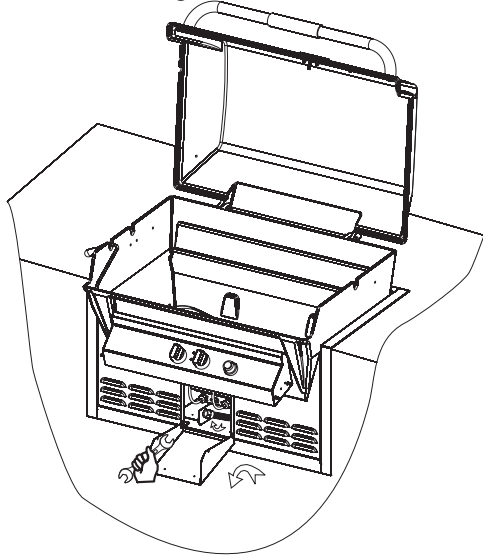

Figure 7
8. Open door and connect flex line to the main valve, then close the door. Figure 7.